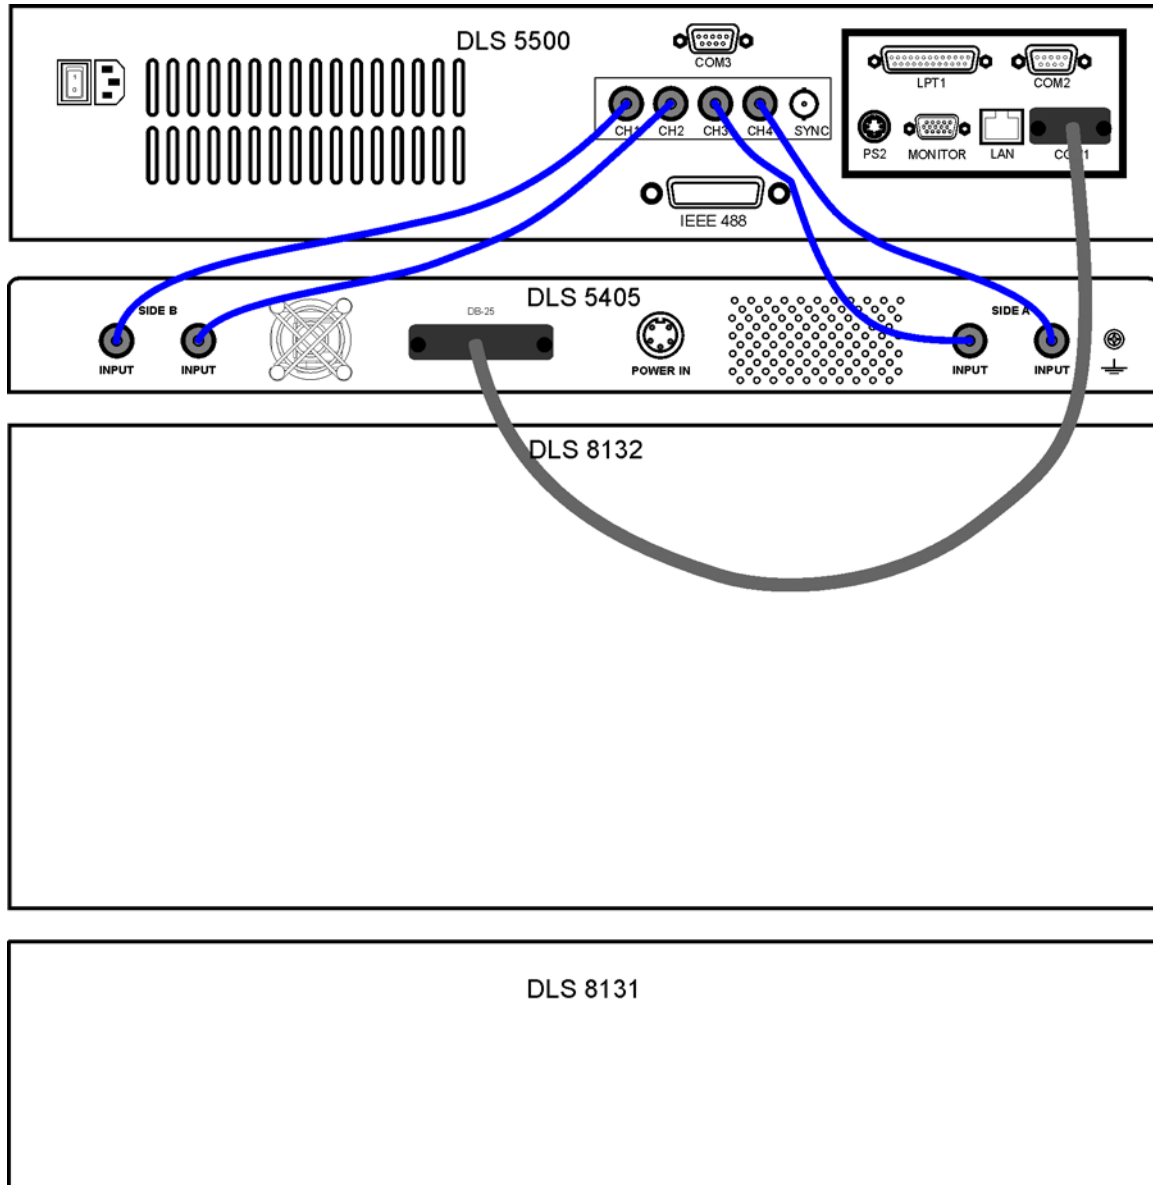

Figure 2-5 DLS 5500, DLS 5405 And DLS 8130 wireline configuration (back view)
Noise profiles are supplied to the DLS 5405 by the DLS 5500. Each side must have two noise profiles connected to it, as shown in *Figure 2-5* on page 2-5. The two noise signal inputs per side are summed by the DLS 5405 and output in differential mode at the injection point (DUT and Wireline jacks) on the front panel.
- Step 2:** Connect each output at the back of the DLS 5500 to an input at the back of the DLS 5405 as shown in *Figure 2-5* on page 5. Use short 50 Ω coaxial cables with BNC connectors at each end.
Each of the four noise signals generated by the DLS 5500 are connected to the four unbalanced BNC inputs at the back of the DLS 5405, using four 50 Ω coaxial cables (Figure 2-5). Connect the DLS 5500 to the DLS 5405 as shown in Figure 2-5.